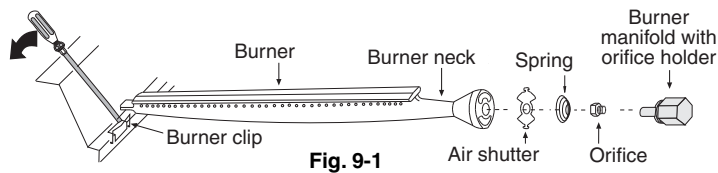

Fig. 9-1
- e. After checking orifice drill size, carefully replace the burners on the pegs so the brass orifice and orifice holder fittings project well into the burners. The air shutter springs and air shutters should be installed over the orifice holder fitting, between the burner and the pipe manifold, in the order and in the position pictured below (Fig. 9-1).